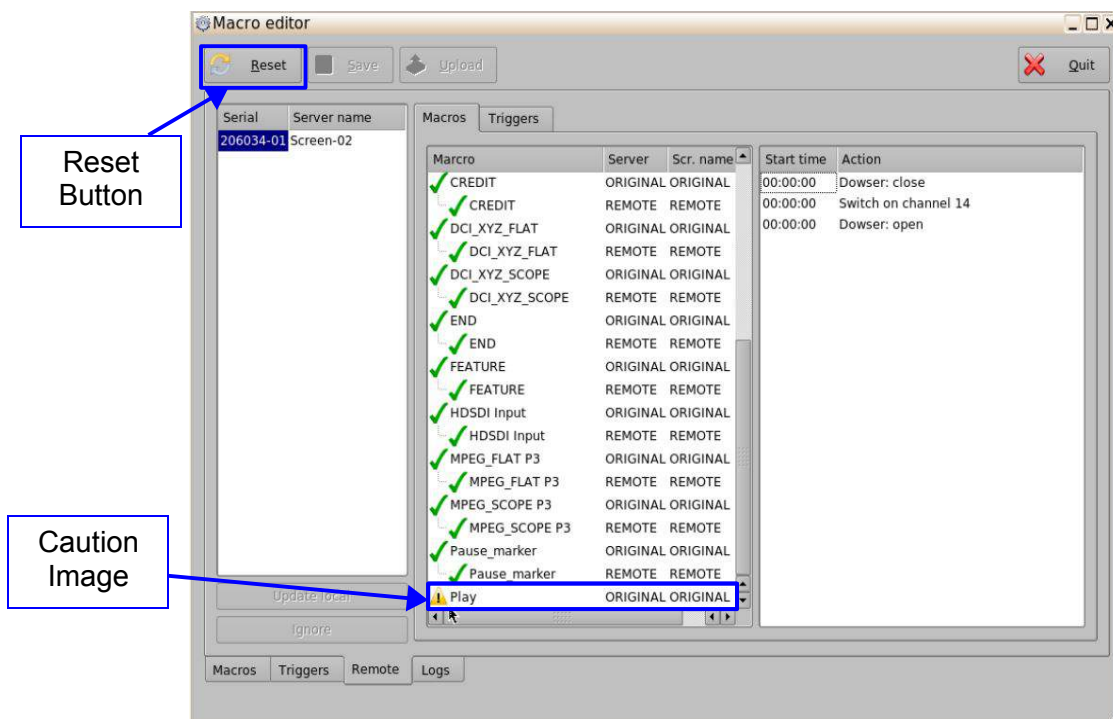

Figure 32: Macro Editor Window – Remote Tab
- The Macro which was modified on the screen can be identified by caution image (⚠). See Figure 32
- Click on the Reset button (Figure 32).